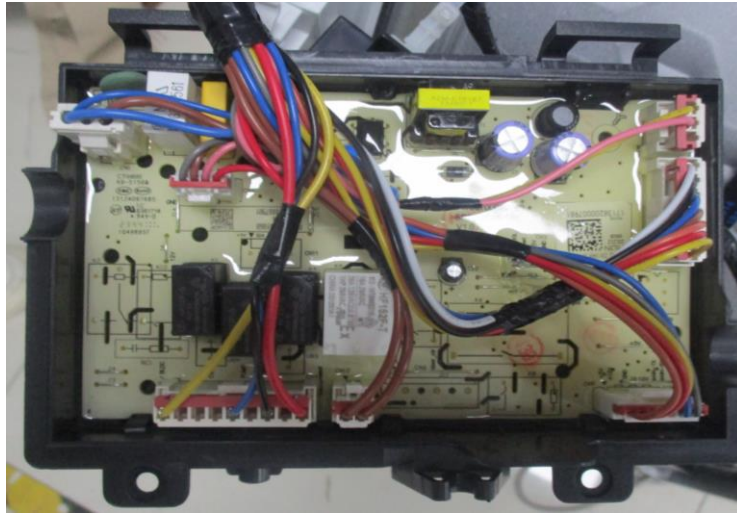

Fig.5
① Replace the main PCB. (Fig.5)